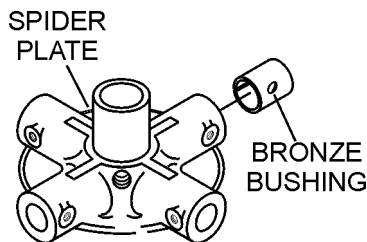

Figure 29. Bronze Bushings
4. Examine the bronze trowel arm bushing insert (Figure 29), clean if necessary. Replace bushing if out-of-round or worn.